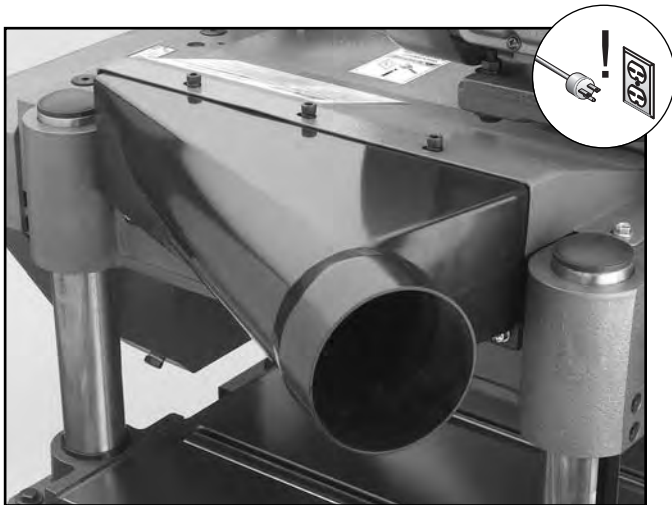

Figure 9. Dust port installed.
2. Place the dust port above the outfeed table. See **Figure 9**.